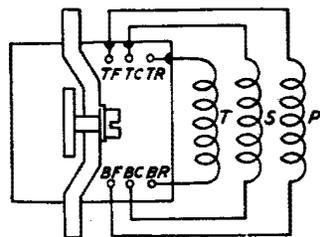

Fig. 5 — Winding Terminal Arrangement as Viewed From the Front (contact side) — U-, Y-, UA-, UB-, and 310-Type Relays
2.22 The second letter is used on multiwinding relays where the terminal is located in a row containing two or more winding terminals. The second letter is F for front, C for center, or R for rear as shown in Fig. 5. These letters represent the position with respect to the front of the relay of that portion of the winding terminal located in front of the rear spoolhead. The F terminal is located nearest the armature and toward the front of the relay.